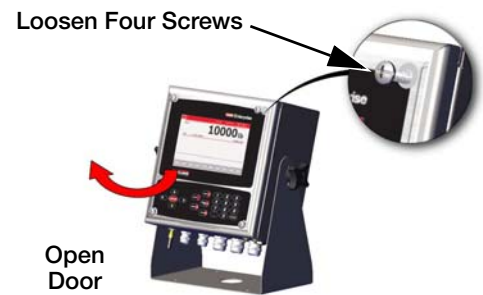

Figure 2-3. Open Cover – Universal
2. Pull the door and fully extend the hinge to swing the door open. See Figure 2-3.